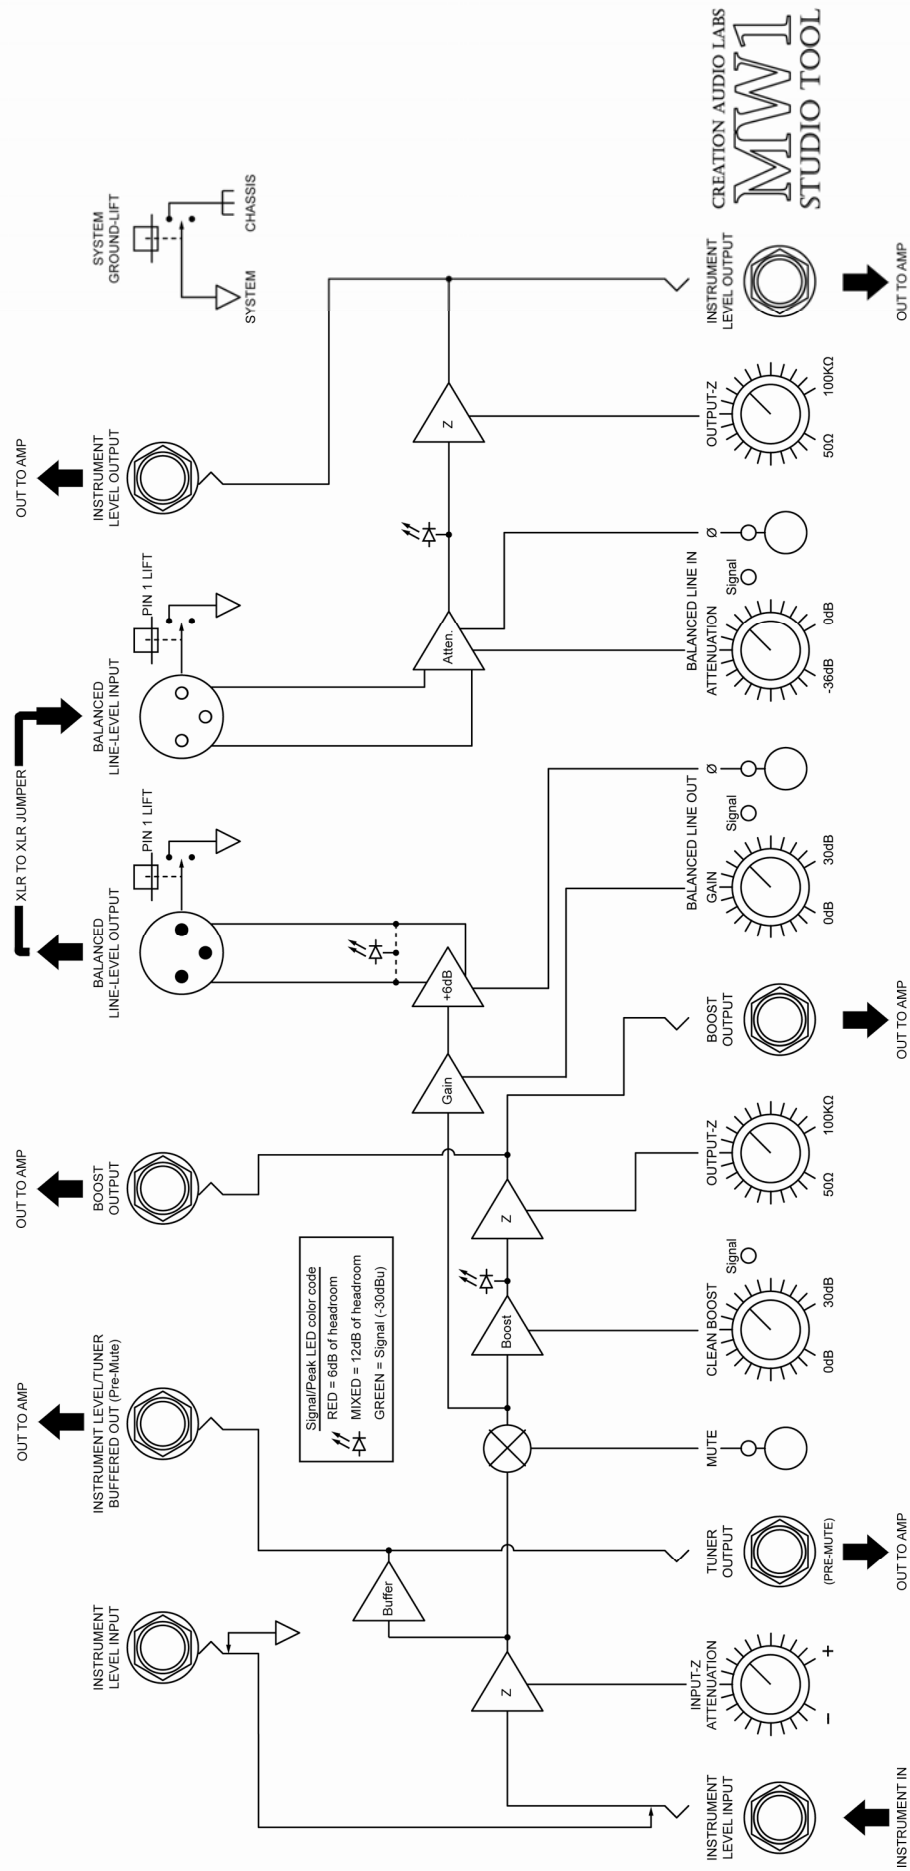

FIG. 8
- Signal splitting to multiple amps. (FIG. 8)